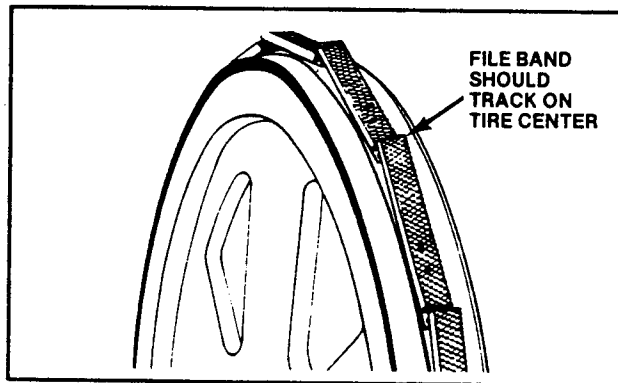

FIG. 50. TRACKING THE FILE BAND.
- (1) Adjust upper wheel tilt angle (if necessary) so band tracks on tire center. Check to see that band is in alignment and passing freely over file guide supports. Tension band same as for a 1/8-inch (3.2 mm) wide carbon saw band. See Fig. 50.